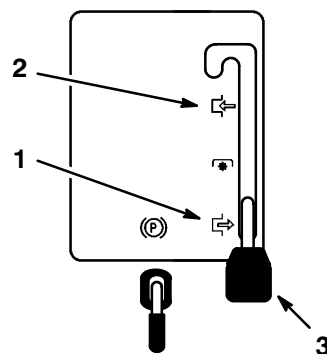

Figure 4
2. Move the blade control (PTO) to Engaged (Fig. 4).
2. Move the PTO to Disengaged (Fig. 4).